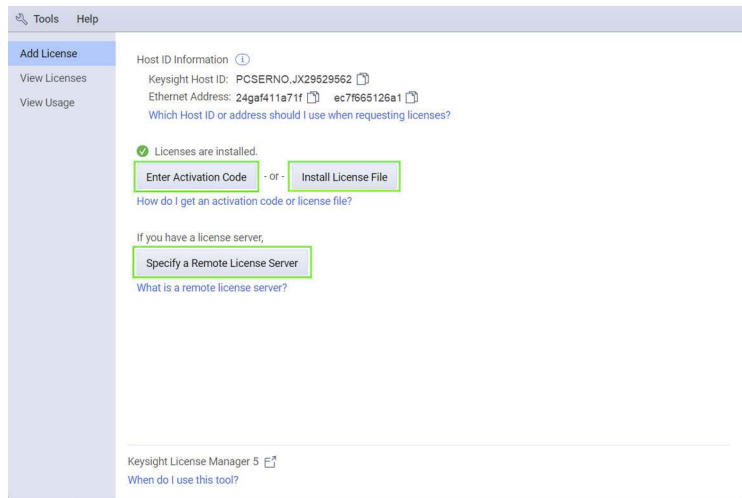

Figure 4 License installation options
- 3 In the **Add License** tab (Figure 4), use one of the options to install the license file.